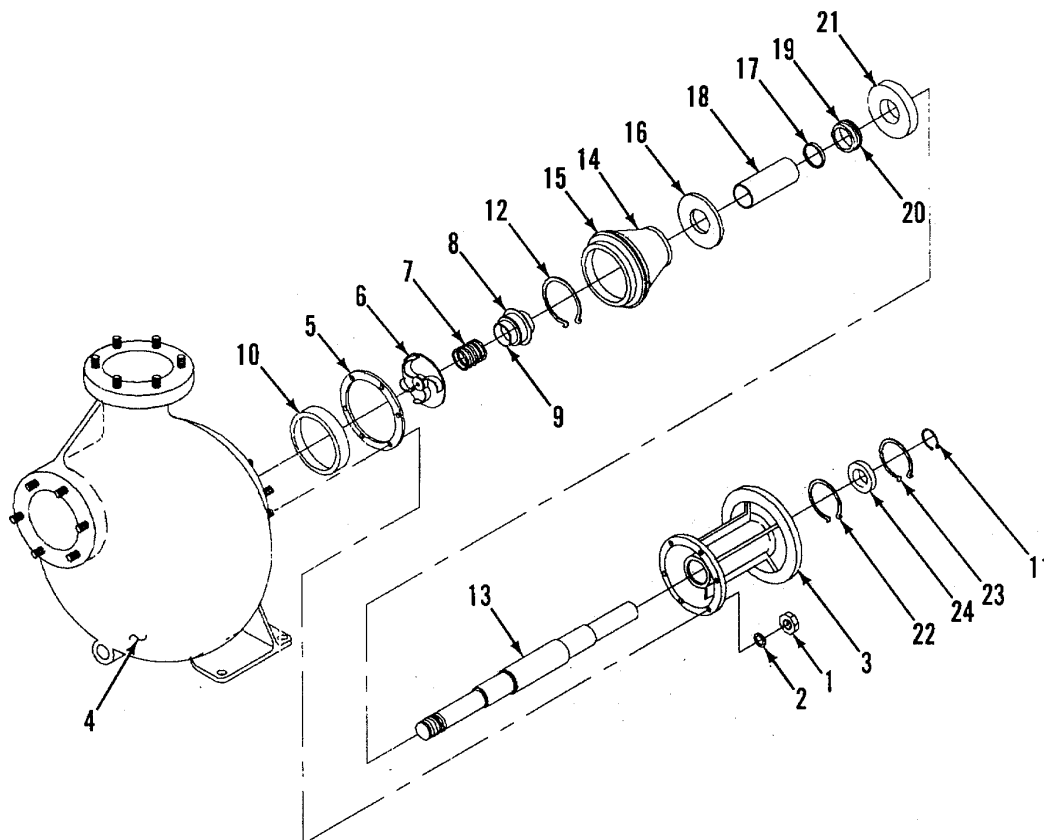

Figure 3-34. Pump 3-72
- (a) Remove socket head screws (1) that secure outer rubber flex (2) to inner steel hub (3).
- (b) Remove outer rubber flex (2) from inner steel hub (3).
- (c) Loosen setscrew (4) that secures inner steel hub (3) to pump shaft (5).
- (d) Using gear puller, remove inner steel hub (3) from pump shaft (5).
- (e) Remove key (6) from pump shaft (5).
- (2) Disassemble pump as follows (Figure 3-34):
- (1) Assemble pump as follows (Figure 3-34):
- (a) Install retaining ring (22) and bearing (24) into bearing housing (3).